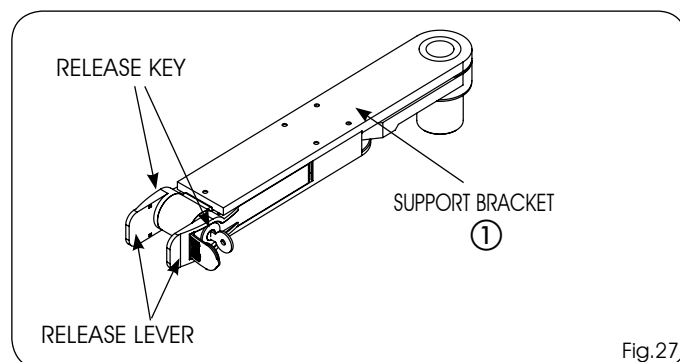

Fig.27
The device is inserted on the gate support bracket (Fig.27 ref. ①) and enables you to release the system from both inside and outside the premises.
- 1) Move the release lever back to its rest position (Fig.27).